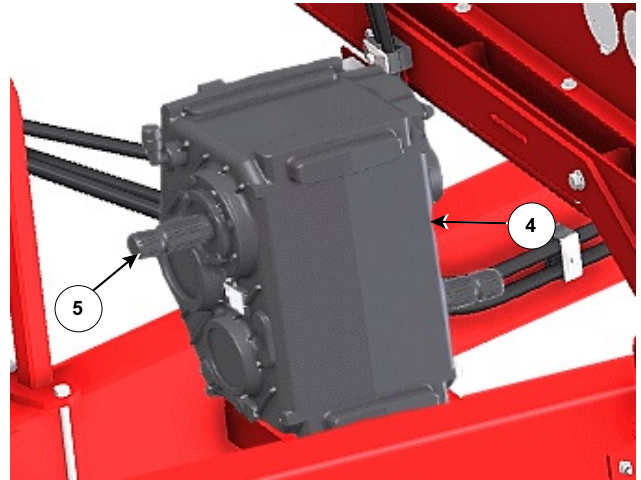
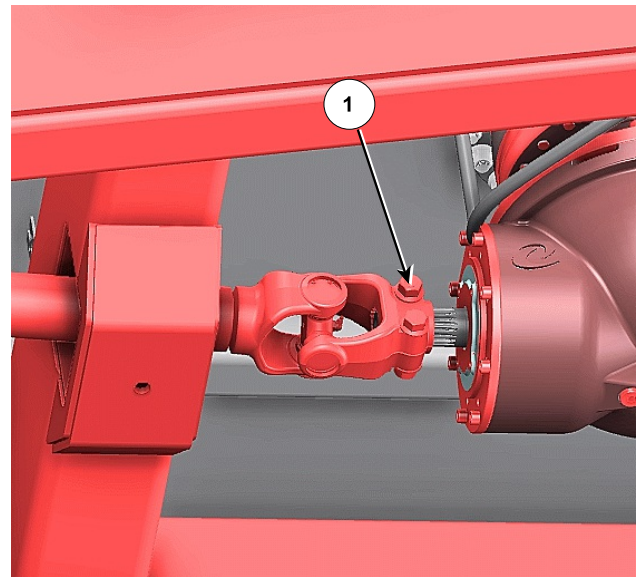

Figure 6: Place the Gearbox onto the Base Plate 224294C
Figure 7: Attach the Driveline to the Screw Planetary 224292C
1. Place the 2 speed gearbox (4) onto the base plate between the hitch frame tubes, see *Figure 6*.
- Place the gearbox with the top splined shaft (5) toward the front of the hitch.
3. Attach the driveline (1) to the lower splined shaft of the gearbox and to the screw planetary, see *Figure 7*.